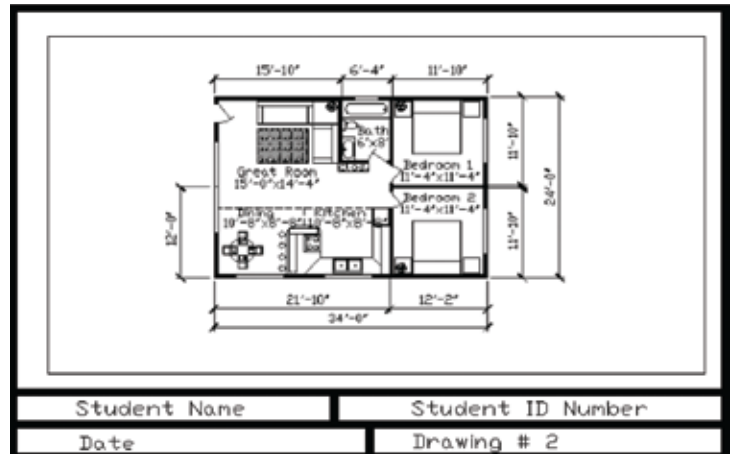

Figure 12.15
- The next prompt is, “Opposite corner.” Pick a point in the lower right corner, also inside the border. See Figure 12.15. The cabin reappears!